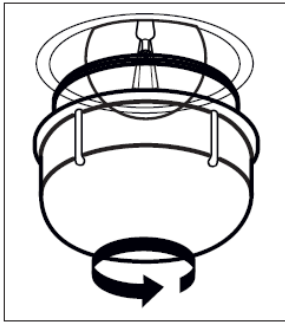

Figure 29
2. Remove the glass protection by turning it counterclockwise (See figure 29). Using plastic gloves may help you if you have difficulty in rotating it.